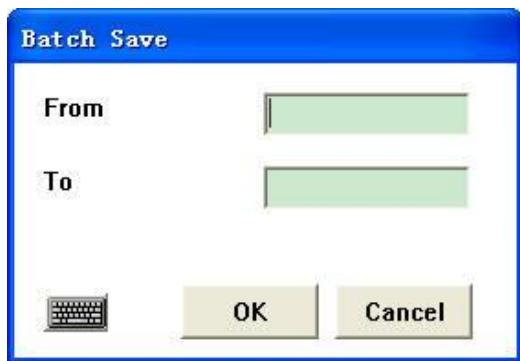

Figure 3-31 Multiple Samples Setup Screen
Step 4: Press the Batch Save key, and the screen as shown in Figure 3-31 will appear: